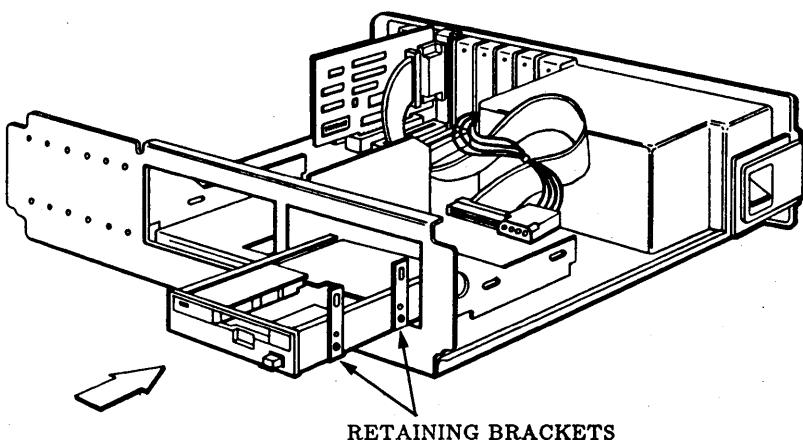

Figure 9: Connecting Retaining Brackets to an Internal Tape Drive
15. For an IBM PC/XT-type computer, screw the retaining brackets (provided with the internal tape drive) to the drive as shown in Figure 9: